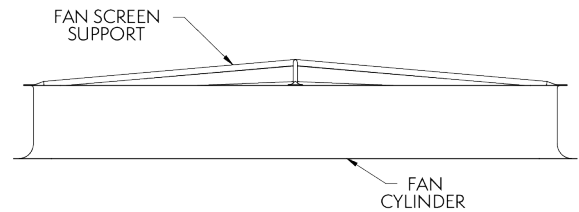

Figure 13 - Support Frame Installation
2. The fan screen is supported from underneath by an "X" shaped support frame. Set the support frame across the top of the discharge cylinder (See **Figure 13**), and fasten to cylinder with 3/8" (10mm) bolts.